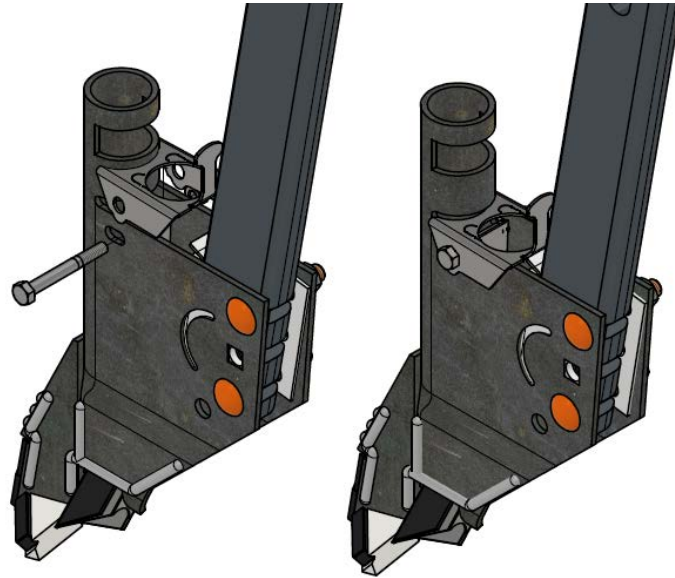

Figure 4: Install opener top
- 2) Install the provided stainless steel top on the opener using the $\frac{1}{4}$ " x $2 \frac{1}{4}$ " bolt and locknut. Remove knock-outs from the top as seen in Figure 4.